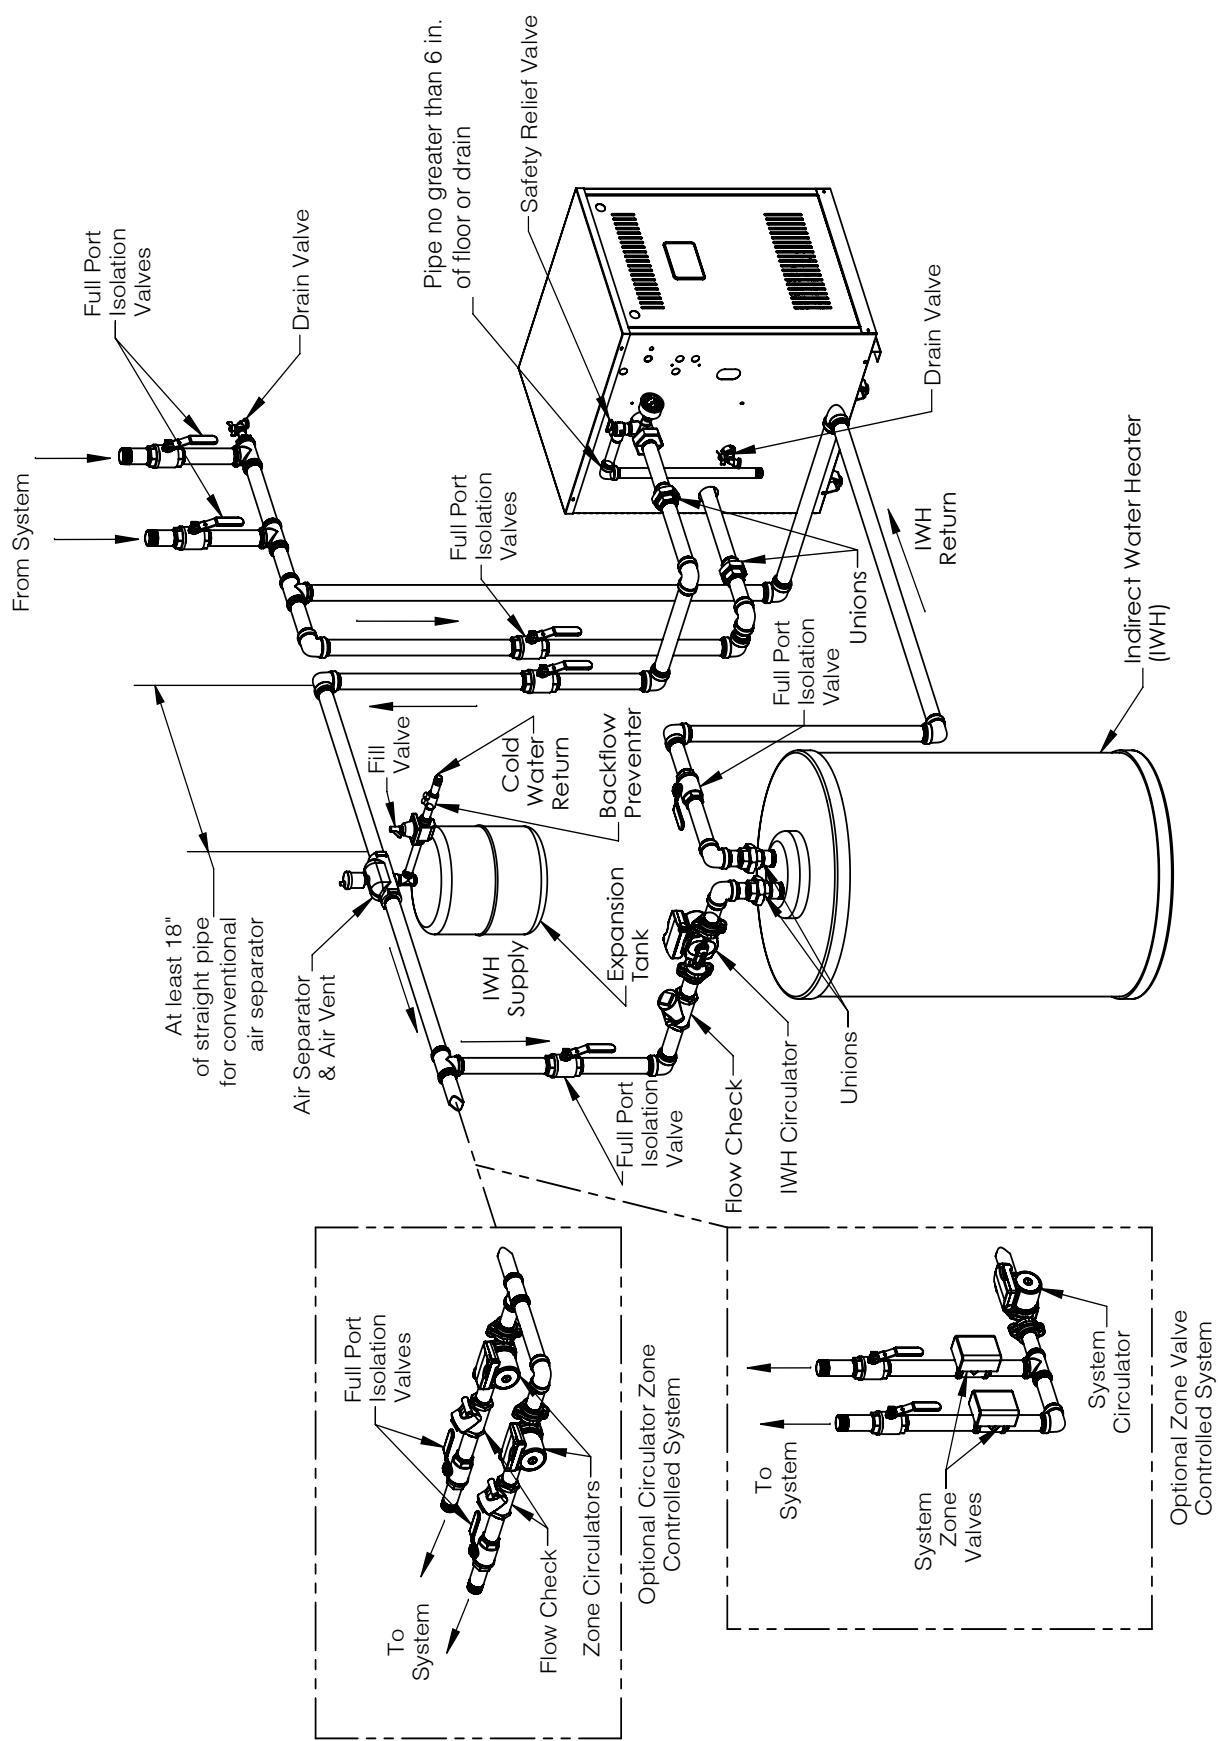

Figure 7-2: Recommended Water Piping for Direct Connection Systems
- D. Attach hose to drain valve located on return piping (see Figure 7-2 and 7-3). Note-Terminate hose in five gallon bucket, at a suitable floor drain, or outdoor area).